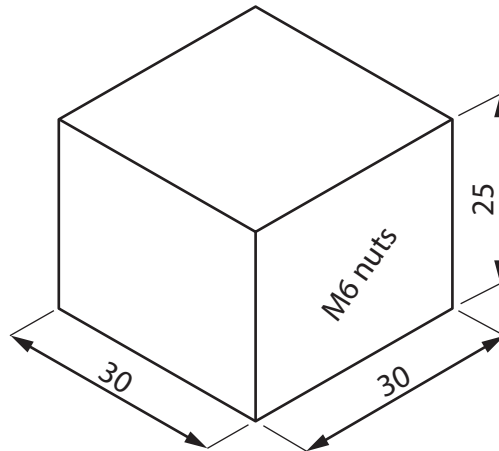

Figure 8
- 5 Figure 8 shows a design solution for a case to hold boxes of nuts together with some additional information.